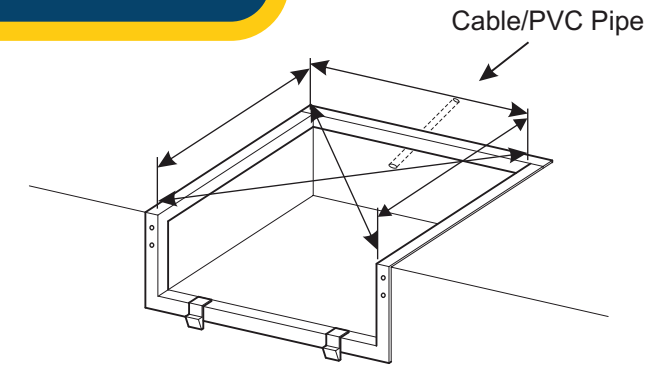

FIGURE 1
1. Pits built for the installation of dock levellers must be checked for accurate measurements and squareness in advance. Diagonal difference may not be more than 15mm. Check the position of the cable/PVC pipe. (See Figure 1)